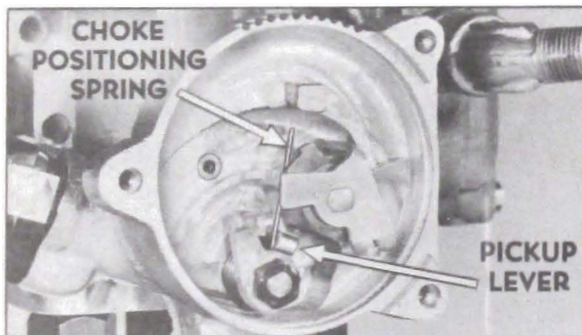

Figure 3-63—Choke Spring Pick-Up Lever Adjustment
5. Turn throttle stop screw in 2 additional turns (7 turns in from fully closed throttle position.) At this throttle position, the choke positioning spring pick-up lever should just contact the choke positioning spring. If lever is not just at the point of contact, adjust by bending lever with needle-nose pliers. See figure 3-63.